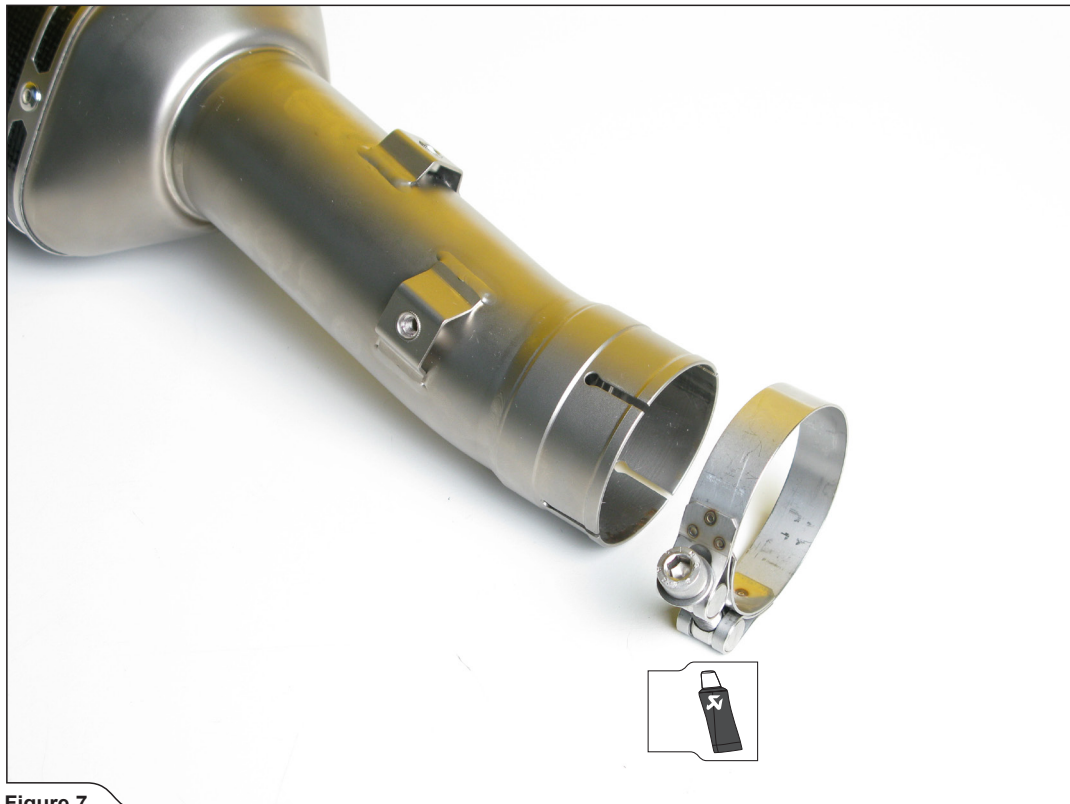

Figure 7
5. **For High Slip-On only:** correctly install the clamp onto the muffler inlet bush as shown (Figure 7).